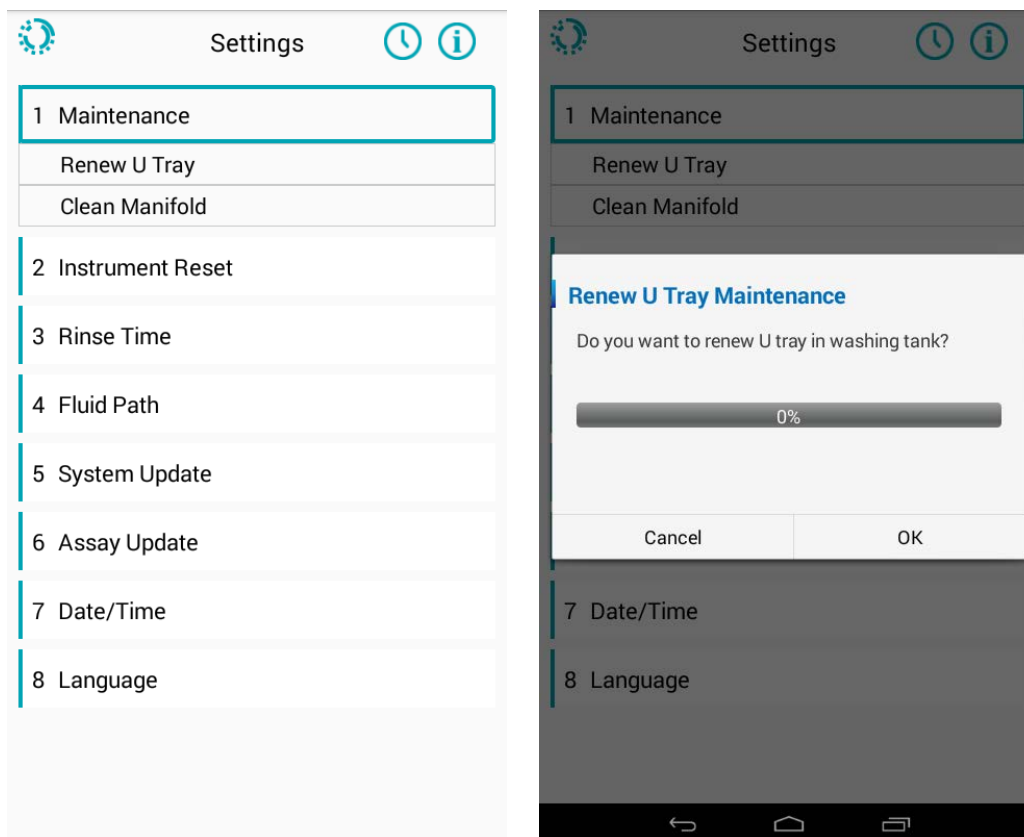

Fig. 28. Renew U Tray
- Step 4. Choose **Renew U Tray** (Fig. 28) and the manifold will move backwards to reveal the washing tank for replacing the U Tray.